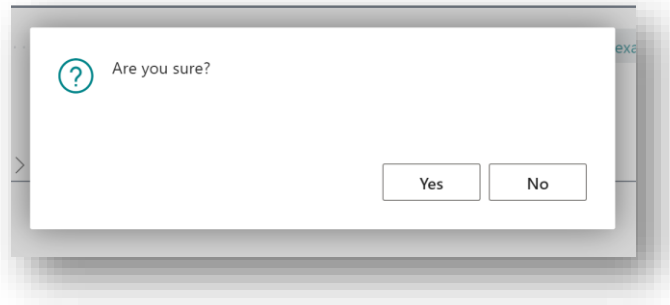

Figure 4-3
3. You are then prompted, “Are you sure?” Choose **Yes** (Figure 4-3).